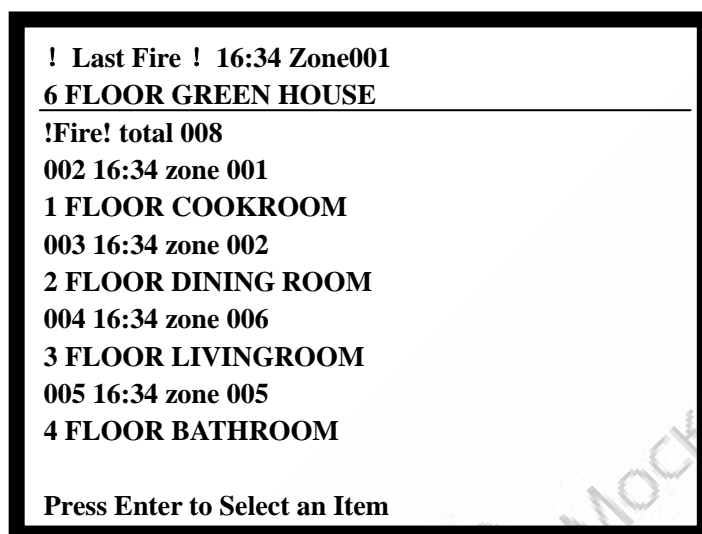

Fig. 5-2
① Zone mode fire information shows in Fig. 5-2.